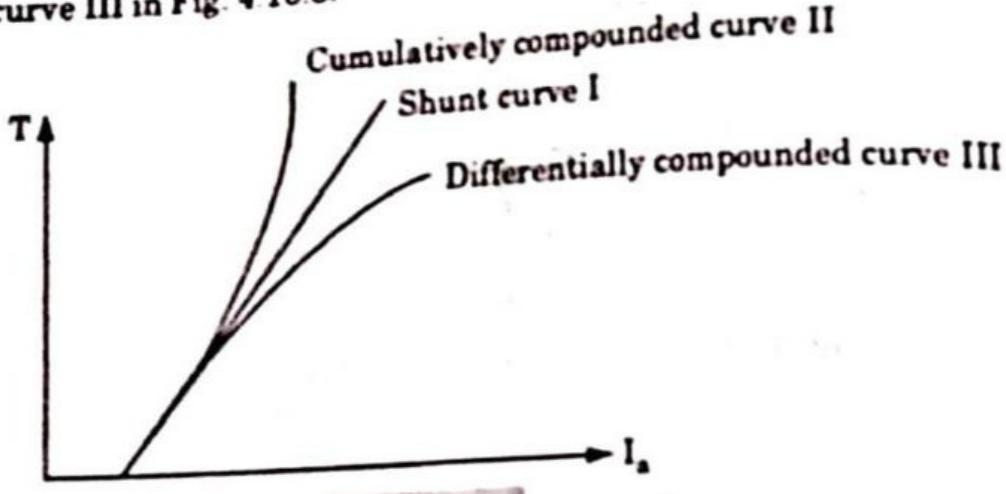

Fig. 4.10.3.
The increase in torque is shown by curve II in Fig. 4.10.3 in case of cumulatively compounded motor.
• Torque will be less as compared to shunt motor, as shown by curve III in Fig. 4.10.3.